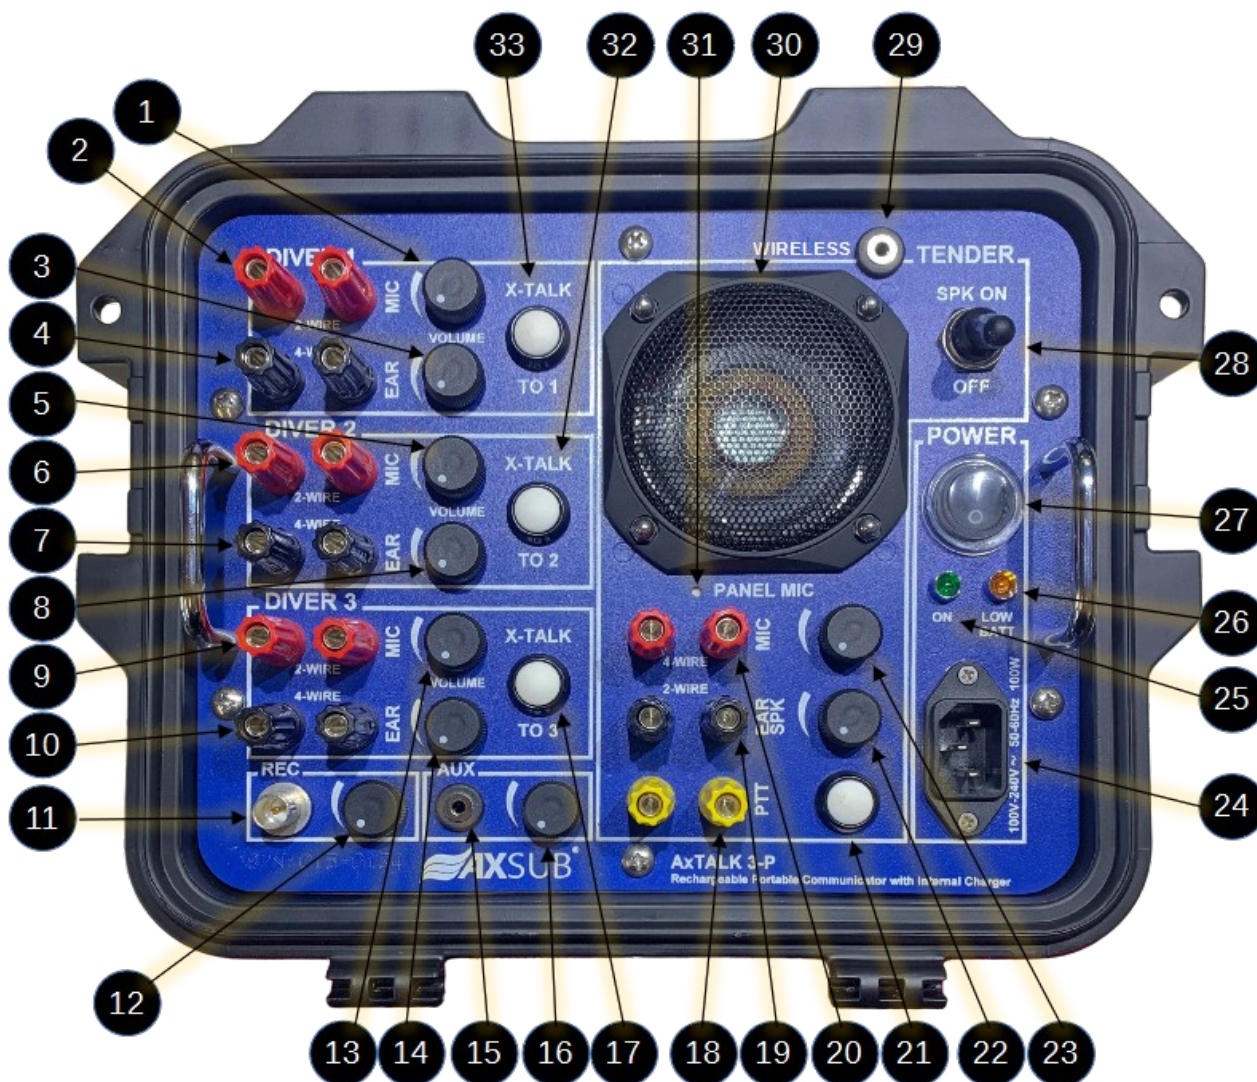

FIGURE 1 – AxTALK 3-P PANEL DESCRIPTION
See Figure 1 for a panel description.
A four-wire cable is required for all stations. Two of the wires are used for the microphone and two for the headset(s) and earphone(s). The diver earphones should be connected to the BLACK "EARPHONE" binding post on the surface unit for both divers (Fig 1 #2 and #4). The banana plug on the tender's headset should be connected to the BLACK "EARPHONE" banana plug (Fig 1 #6). The tender's microphone should be connected to the RED banana plug labeled "MICROPHONE" (Tender's section). The diver's microphone should be connected to the "MICROPHONE" RED banana plug in the Diver's section of the AxTALK 3-P. When in the four-wire mode, everyone is online together. It is similar to a telephone conference call.
If the Tender prefer use the Push-to-talk switch on the AxTALK 3-P (Fig 1 #10) when need to talk to the divers, he must connect his microphone AND headphone to the BLACK binding posts only (Fig 1 #6). If the Tender prefer use the Push-to-talk switch on the external microphone (hand microphone or headset with integrated PPT button), then he must connect his microphone on the YELLOW banana plug labeled "PPT" (Tender's section). AND headphone to the BLACK binding posts (Fig 1 #7).
- 2) When in the four-wire mode, you must use a headset with a boom microphone, and the Diver Select switch must be in the “BOTH” position. If feedback is present, switch of the front panel speaker (Fig. 1, #7).